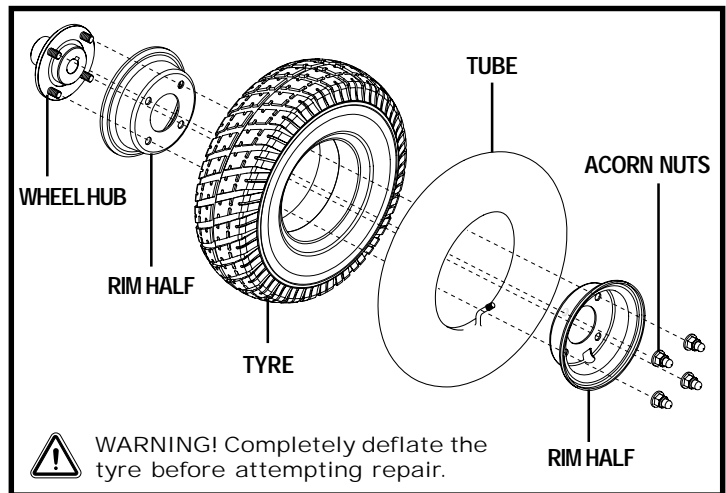

Figure 24. Tyre Removal
8. Remove the acorn nuts that fasten the two rim halves together. See figure 24.
12. Reinstall the drive wheel nut and washer onto the axle and tighten. See figure 24.